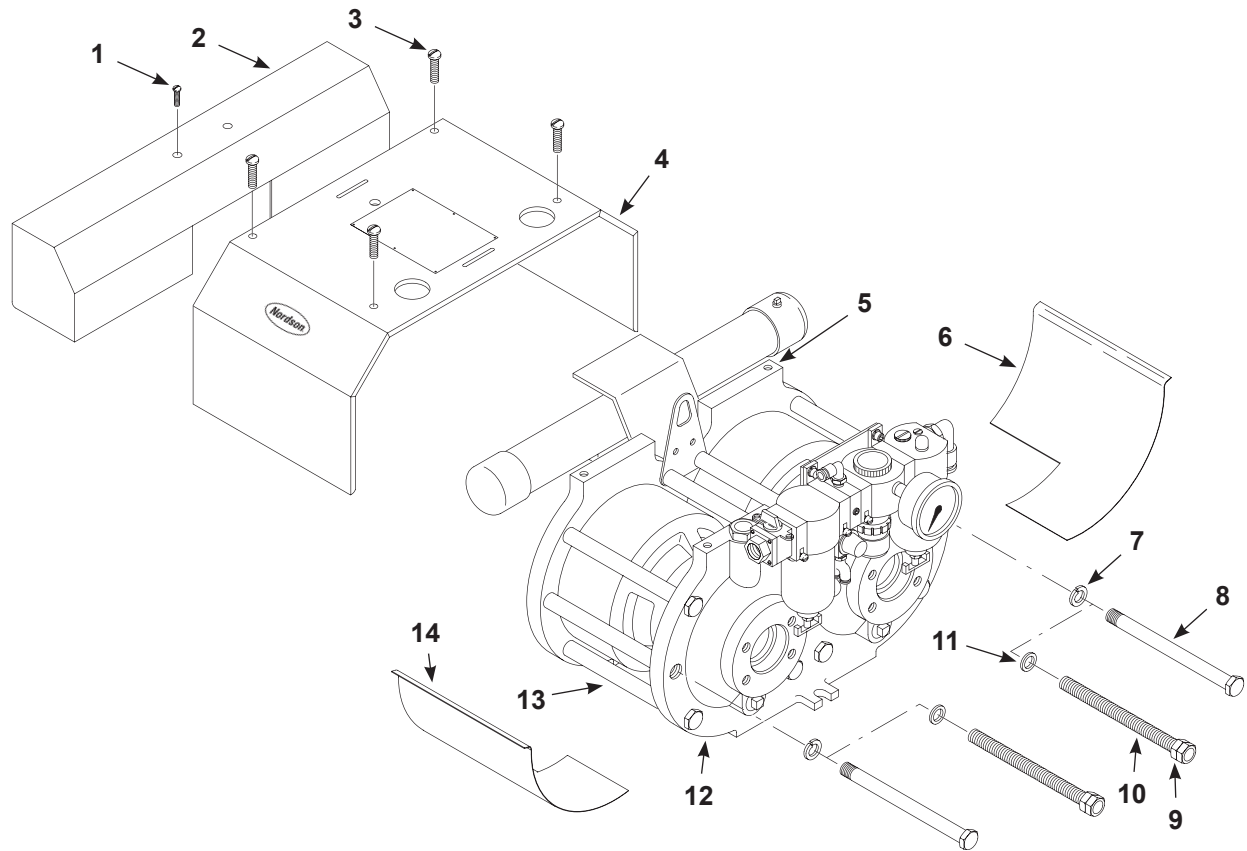
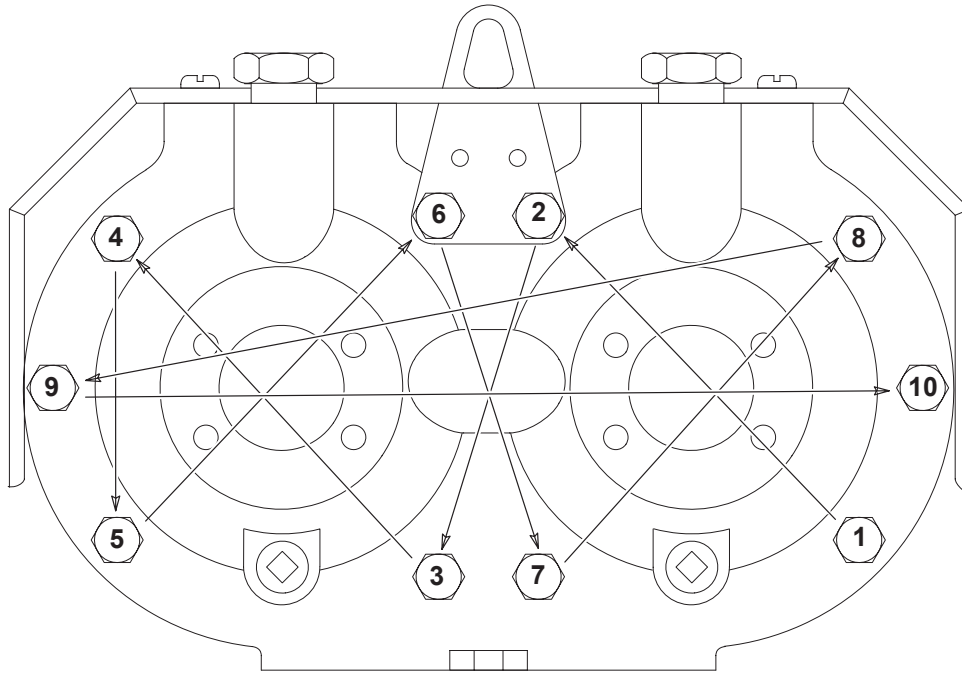

Figure 6-6 Air Motor Disassembly – Removing Covers and Releasing Spring Tension
Figure 6-8 Air Motor Screw Torquing Pattern
1. See Figure 6-6. Remove the screws (1, 3) that secure the cover plate (4) and accumulator cover (2) to the pump. Remove the two side covers (6, 14).
2. Install the solvent seal packing glands (15) and O-rings (14) into the lower heads (13).
3. Install the lower heads on the solvent chamber (1) with the screws, flat washers, and nylon washers (10, 11, 12). Tighten the screws securely.
4. Install the O-rings (7) into the grooves in the upper head.
5. Coat the inside walls of the air cylinders (9) with low-temperature lithium grease. Install the air cylinders into the grooves in the upper head (8).
6. Install the pistons into the air cylinders (9).
7. Install the air motor springs (3) onto the pistons.
8. Install the lower heads onto the air cylinders (9), carefully guiding the ends of the piston shafts through the solvent seal packing glands.
9. See Figure 6-6. Install two spacers and the spring removal studs as illustrated. Turn down the stud nuts until they are snug against the solvent chamber.
10. Tighten the stud nuts evenly by alternating turns to draw the upper head and solvent chamber together until you can thread the screws (8) into the upper head.
12. Remove the spring removal studs (10) and install the remaining two lock washers and screws.
13. See Figure 6-8 for the torquing pattern. Tighten all screws to 41–47 N•m (30–35 ft-lb).
14. See Figure 6-6. Install the cover plate (4), accumulator cover (2) and side guards (6, 14) onto the air motor.